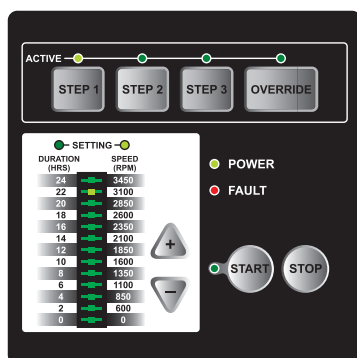

Figure 2: Speed LED
2. Press the STEP 1 key again to change the SPEED setting. The SPEED setting LED will illuminate. The bar graph will show default SPEED for STEP 1, see figure 2.